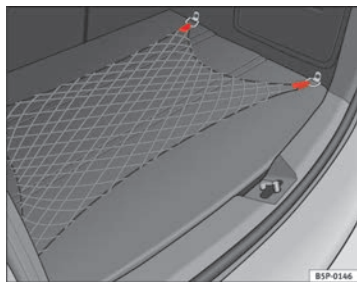

Fig. 108 Retaining net
- Use the fastening rings located on the side of the luggage compartment to attach the retaining net ⇒ fig. 108.